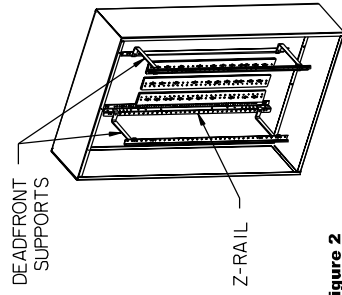
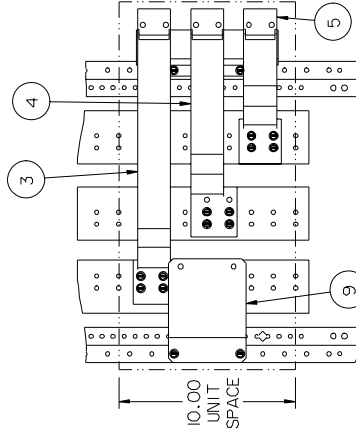

Figure 2
Figure 4
3. Reference fig. 2 - To mount a VL N Frame breaker, 10" of empty unit space is required. To locate the mounting position, measure from the top deadfront support to the top of the empty unit space filler on the deadfront. Transfer this dimension from the deadfront support along the Z-rail and mark. This will be the unit space as shown on Fig. 4. After marking the Z-rail, remove the deadfront.